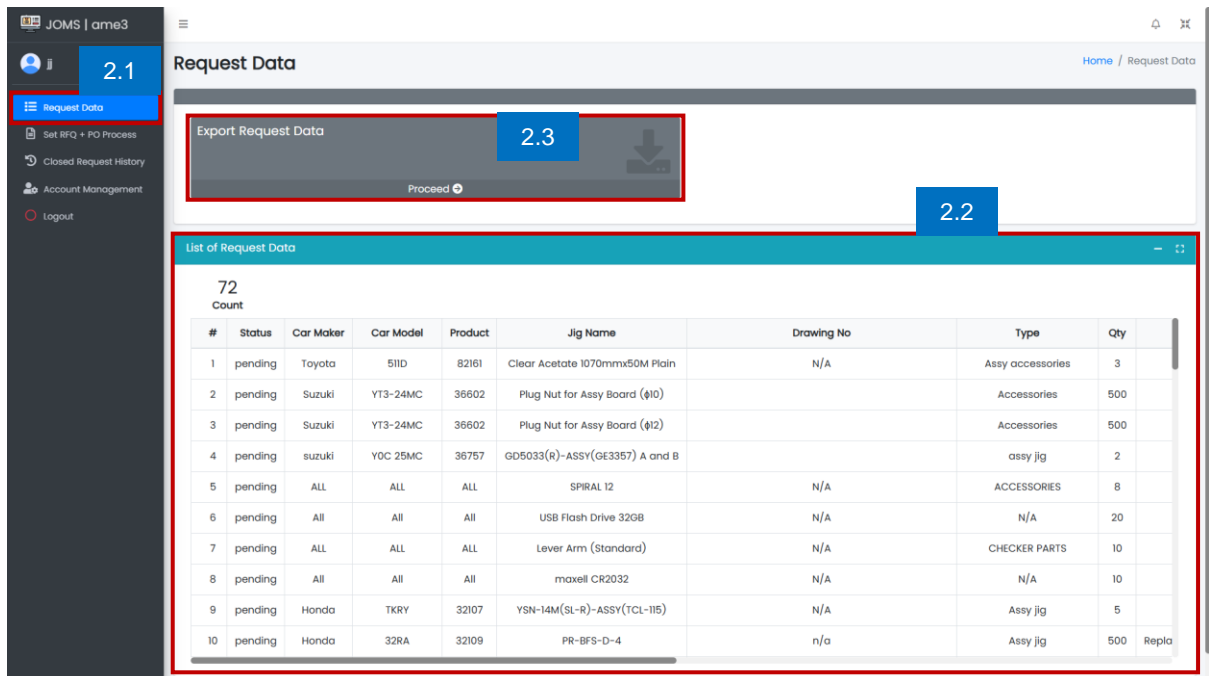

Figure 12. AME3 Request Data Page
2.1 Click Request Data button to access main form. (See Figure 12)
2.2 Viewer of list of request data uploaded by requestor. (See Figure 12)
2.3 Click Proceed of Export Request Data to download list of requested data. (See Figure 12)